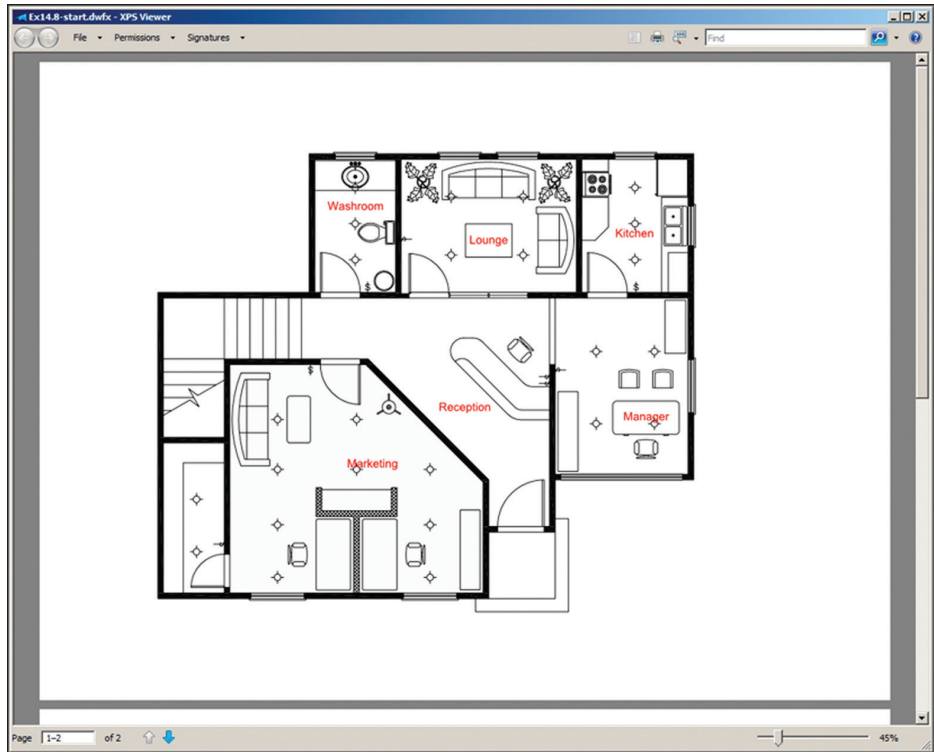

FIGURE 14.24 DWG drawing displayed in Internet Explorer
3. Double-click the `Ex14.8-start.dwg` file on your hard drive. After a few moments, the vector drawing appears in the XPS Viewer, a program that is part of the Windows operating system. Drag the slider to the left at the bottom of the interface to zoom out (see Figure 14.24).